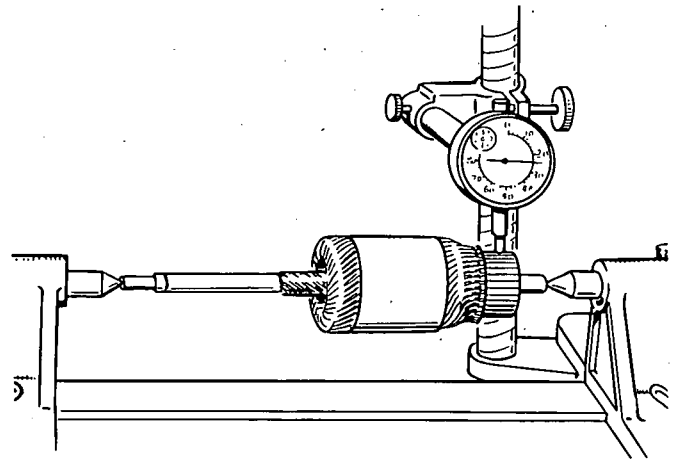

FIGURE 42. CHECKING COMMUTATOR RUNOUT
4. **Testing Commutator Runout.** Place armature in a test bench and check runout with a dial indicator. When commutator runout exceeds .004", commutator should be refaced (Figure 42).